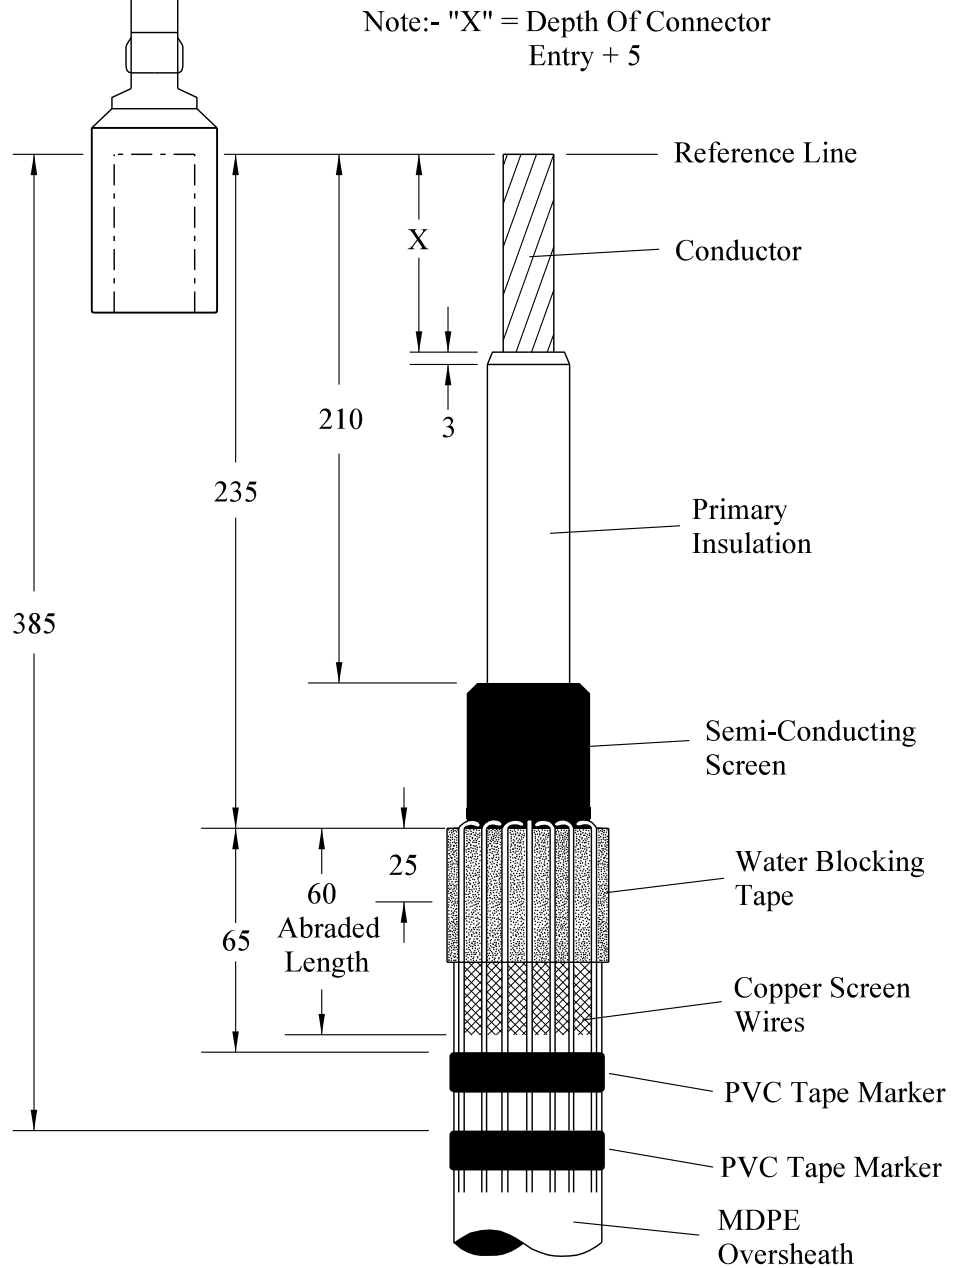

Fig 1
10. Remove oversheaths and bedding tapes — Fig 1.	--
11. Abrade oversheaths — Fig 1.	--
12. Apply a turn of mastic around oversheath — Fig 1.	--
15. Place a PVC tape marker 245mm from the reference point onto the copper screen wires — Fig 1.	--